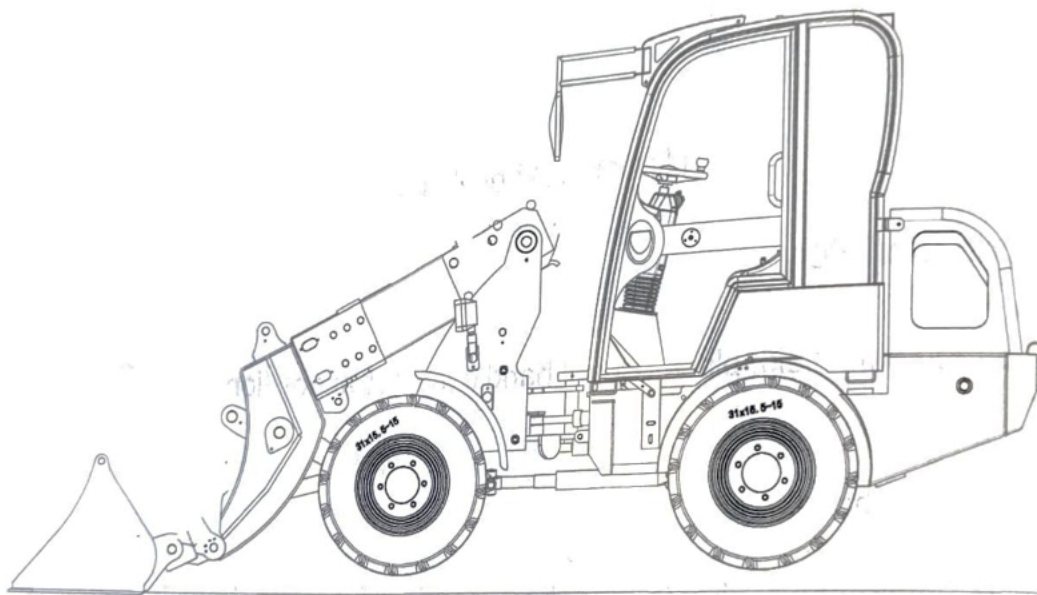

Figure 6-28 Parking state
Step 1: Park loader on a flat field, place control handle in neutral position, pull up parking brake handle, and put the blocks before and after the tires, as shown in Figure 6-28;